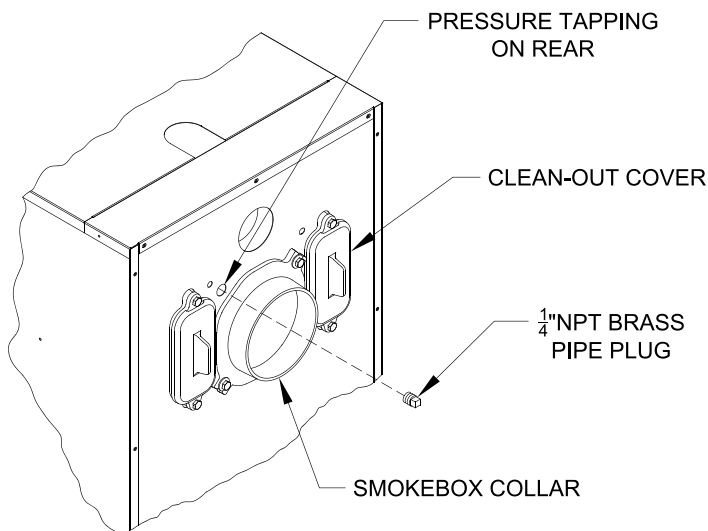

Figure 6-3: Smokebox Pressure Tapping for Checking Draft at Breach
NOTE: Secure chimney connector to cast iron smokebox collar with three (3) #10 x ½ in. self drilling hex head TEK screws provided in miscellaneous parts carton. Locate screws around perimeter of connector as shown in Figure 6-3 and approximately ½ in. in from edge. Use drill with 5/16 in. hex bit to drive screws through connector and smokebox collar.
2. Minimum Draft at Breech (Canopy) – The draft induced by a chimney must create at least a pressure of 0 (zero) inches water column (“w.c.”) at the pressure tapping on the canopy mounted on rear of boiler (see Figure 6-3). The pressure at the canopy cannot be positive since this could create a condition that allows flue gas by-products to escape from the draft regulator (not supplied). A negative pressure reading up to -.03 inches water column is acceptable for proper operation. (See Tables 15-1 and 15-2 Burner Specifications at the rear of this manual for more details)